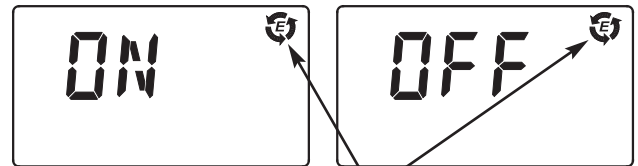
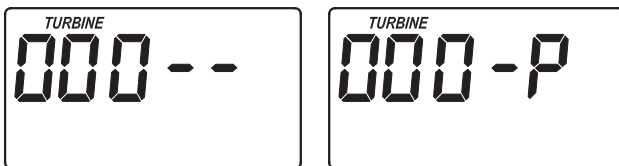

FIG. 22
FIG. 21
1. Press and hold the SELECT button until one of the screens in Figure 21 is displayed. Once in this display, press the SELECT button once and one of the two displays in Figure 22 is shown.